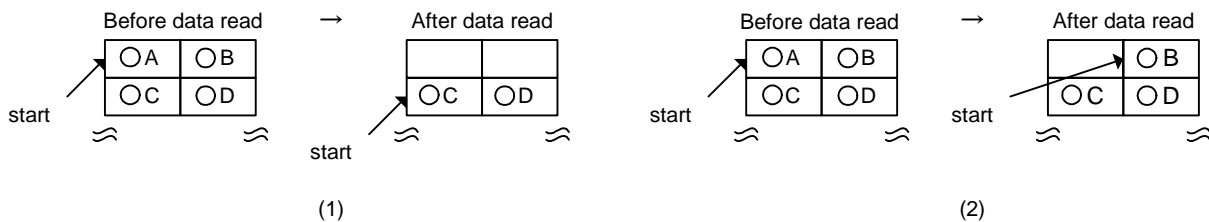

Fig. A2.6.24 FIFO Read Process (Normal operation)
Item (1) of Fig.A2.6.24 shows the word read from memory having no byte boundary. Data A and B, and data C and D are read in this order for each memory access. Case (2) of Fig.A2.6.24 (2) shows the byte read. Data A, data B, data C, and data D are read in this order for each memory access. This is the normal data read.